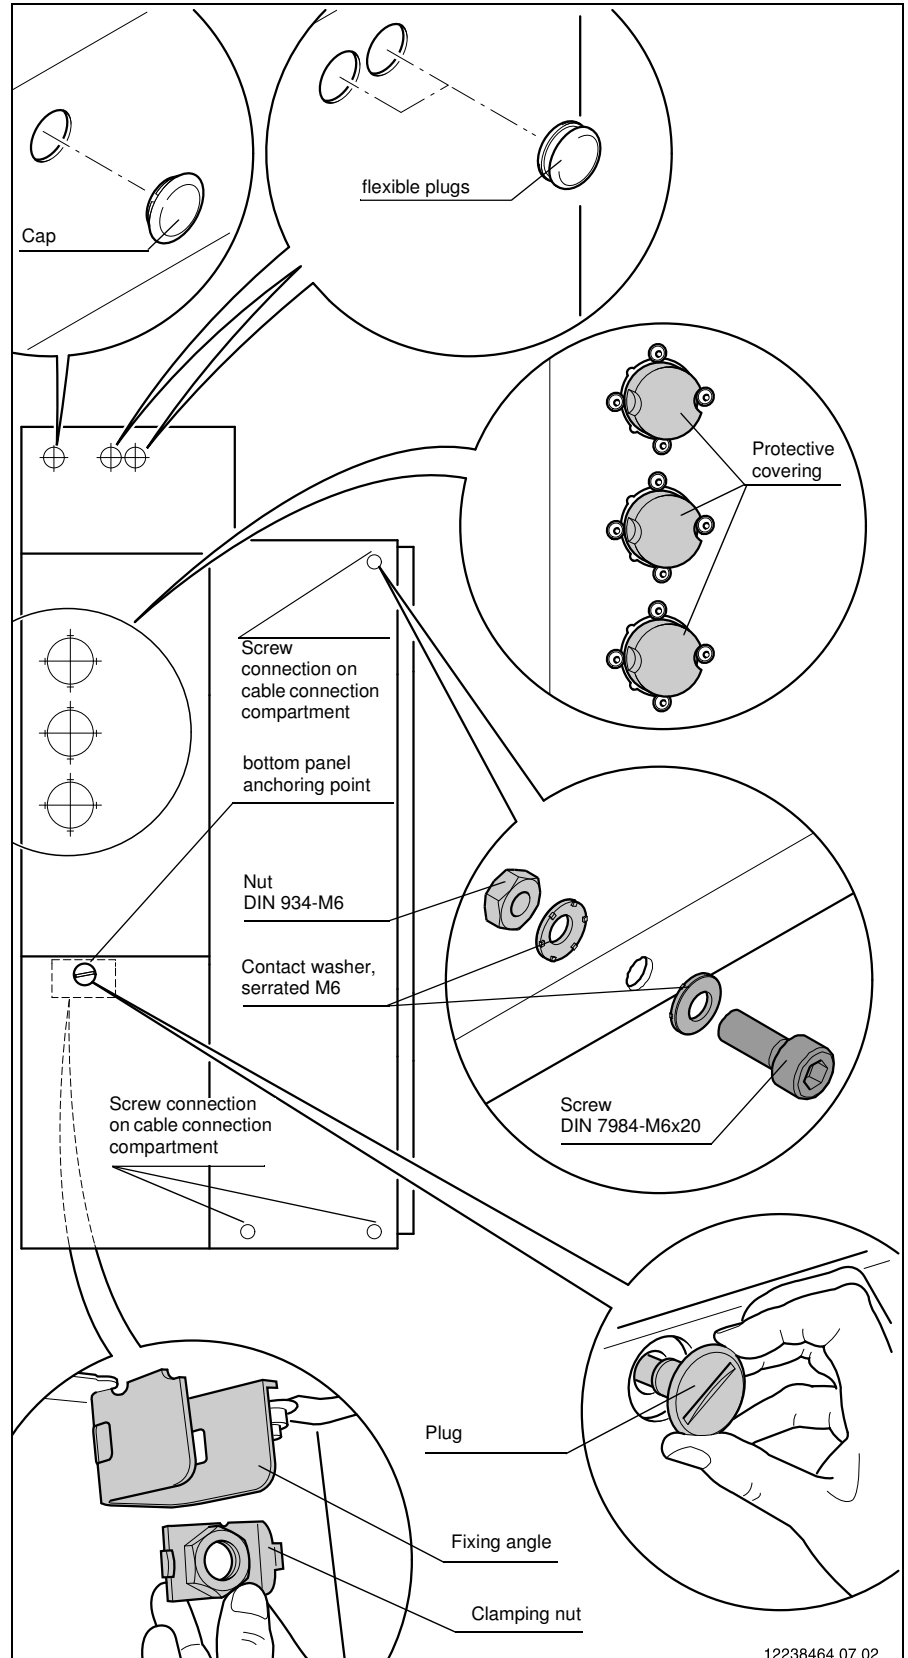

Fig. 13
- Remove the adhesive foil from the bottom panel installation point (Fig. 13).
- In the cable connection compartment insert the clamping nut (Fig. 13) into the fastening angle.
- Turn the plug (Fig. 13) with a screwdriver from outside into the bottom panel installation point (tightening torque: 10 Nm).
Close the lateral bores in the cable connection compartment as shown in Fig. 13.
- 5.** Remove the adhesive foil from the top panel installation point and the openings for the cable gland. Close all openings with a cap (panel installation point) and two flexible plugs (cable gland points) as shown in Fig. 13.
10. Pull the polystyrene caps (Fig. 13) out of the lateral bushings L1 to L3.